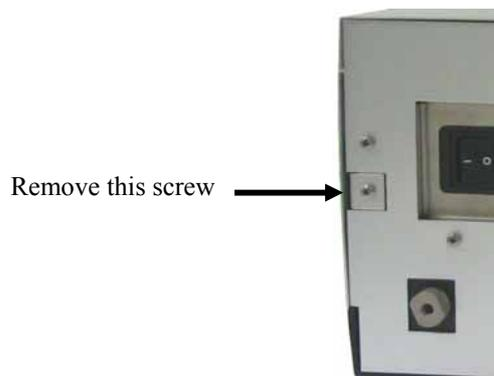

Fig. 42: Screw for the right-side panel
1. On the rear panel, remove the screw for the right-side panel (→ Fig. 42).